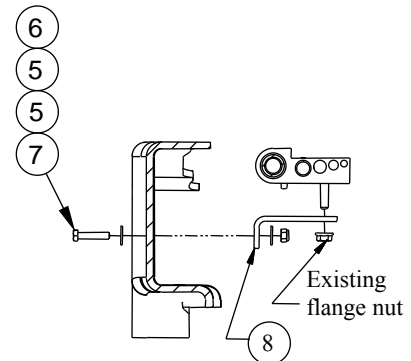

**Figure 1a**
2. **On Gas Engine Vehicles Only.** The vapor tube running along the inside of the driver's side frame rail must be relocated prior to installing the driver's side bracket. See Figure 1a. Remove the flange nut from the outside of the frame and keep for later use. See Figure 1b. Rotate the tubes up and out of the way. Install the L-bracket (8) with 1/4" hardware (5)(6)(7), as shown in Figure 1c. Tighten the L-bracket (8) to the frame, but leave the tube holder loose to aid bracket installation.